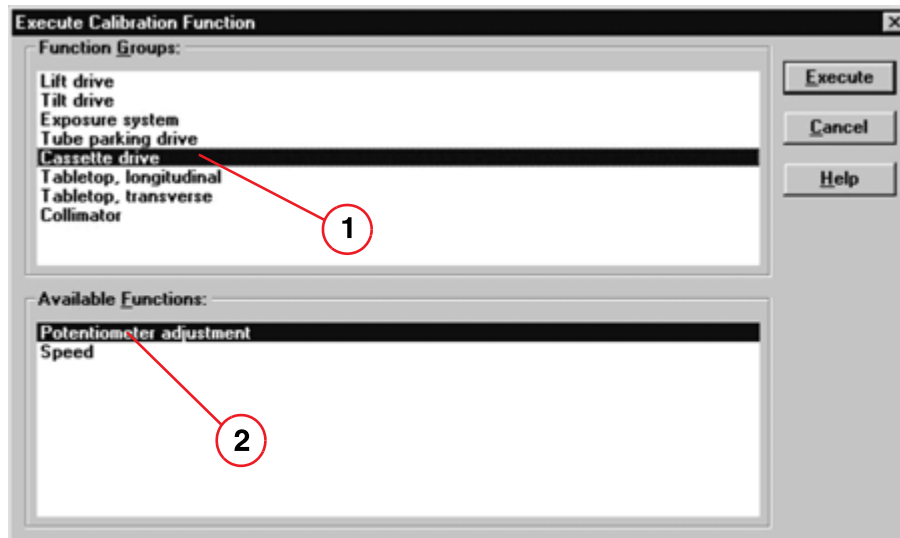

Fig. 106: Window "Movements with service button: Cassette system"
- In the UROSKOP Access SSW select the menu item **Adjustment > Calibration** and then **Cassette drive, Potentiometer adjustment** (1/2/Fig. 106 / p. 93).